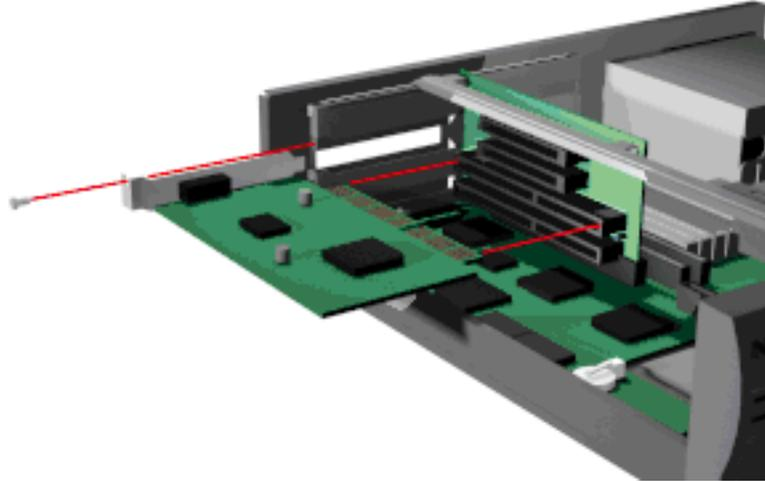

Figure 3-5 *Inserting the Board*
5. Hold the board by its edges and insert it into the expansion slot (see Figure 3-5). Align full-size expansion boards with the guide rail at the front of the system unit. Press the board firmly into the expansion slot connector. Gently rock the board from side-to-side to seat it into the connector.